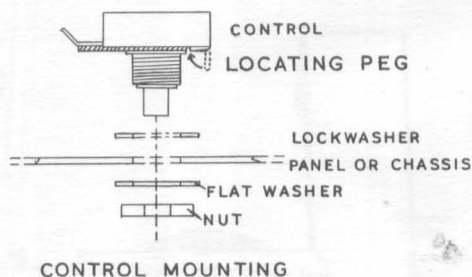

FIGURE 6.
- (✓) Mount the 10 Ω potentiometer in location C. Orient the tags as shown in Pictorial 1. See Figure 6 for correct mounting procedure.
- (✓) Mount the RANGE switch on the panel. Refer to Figure 6 for mounting procedure and Pictorial 4 for switch orientation.
- (✓) Twist the two BLACK transformer leads together and connect either lead to LE2 (NS). Connect the other lead to RR7 (S-1).
- (✓) Connect a wire from LE1 (NS) to RR8 (S-1).
- (✓) Connect the free lead of the 100Ω precision resistor from RM5 to solder tag G (NS).